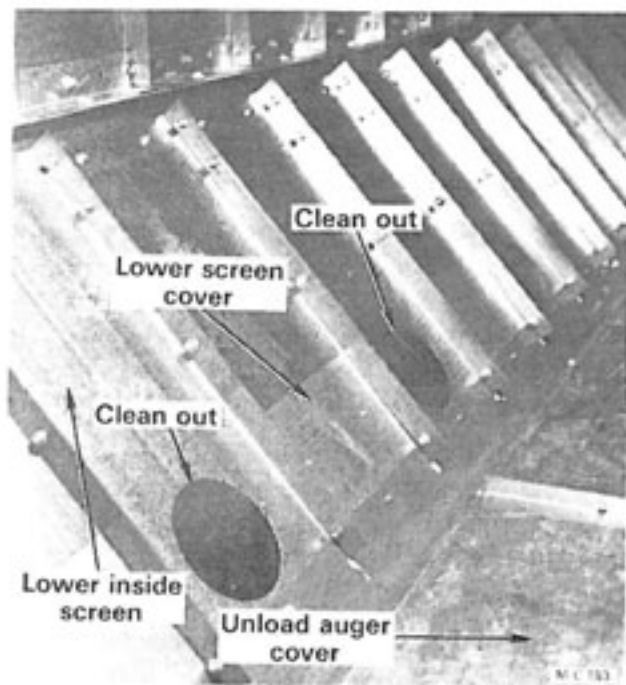

Figure 28
C. There is a clean-out in every lower inside screen. Remove lower screen covers, see Figure 28. Reinstall the lower screen doors covers and close the dryer rear door.